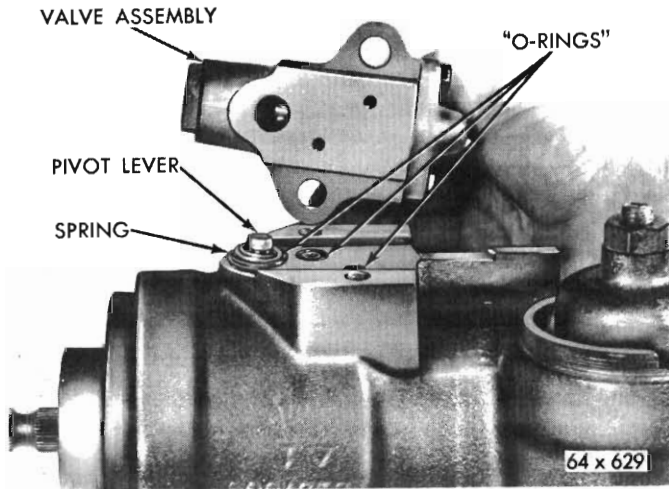

Fig. 3 - Removing valve body assembly
(3) Lift valve body upward to disengage from valve lever (Fig. 3).
(1) Remove the two screws attaching the control valve body to the steering valve body, and separate the two bodies (*Figs. 3 and 4*).